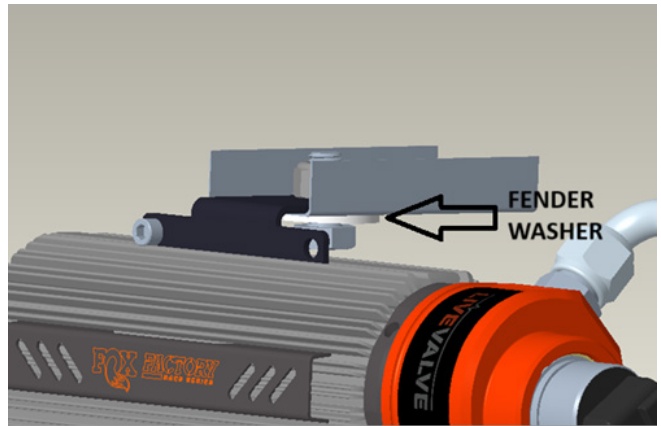

Fig. 27: CAD model showing the nut/washer/bolt assembly in bed frame channel.
4. Note the existing ~13 mm hole in the bed frame channel. Install the included 12 mm bolt with the included washer through the bottom of this hole. Use box end wrench to hold the included 12 mm nylock nut inside the bed frame channel. Align the reservoir parallel with the bed frame edge. Torque the M12 bolt/nut to 45 ft-lbs (Fig. 27).